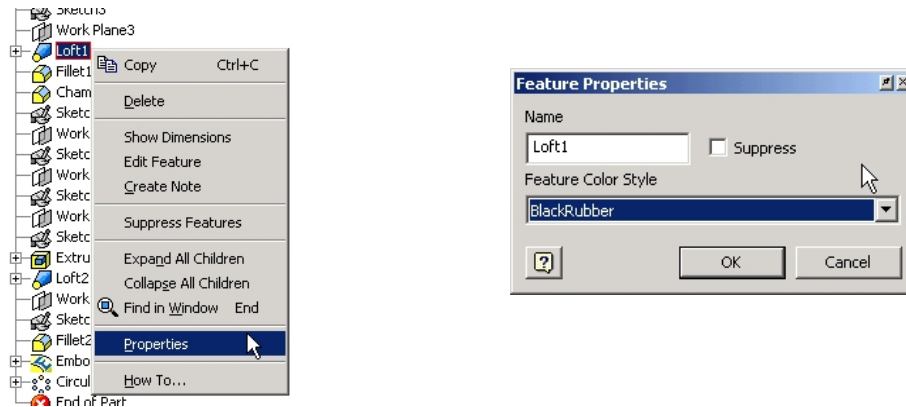

Figure 2
2. Find **Loft1** in the browser and right click on it. Select **Properties** from the context menu as shown in Figure 2.